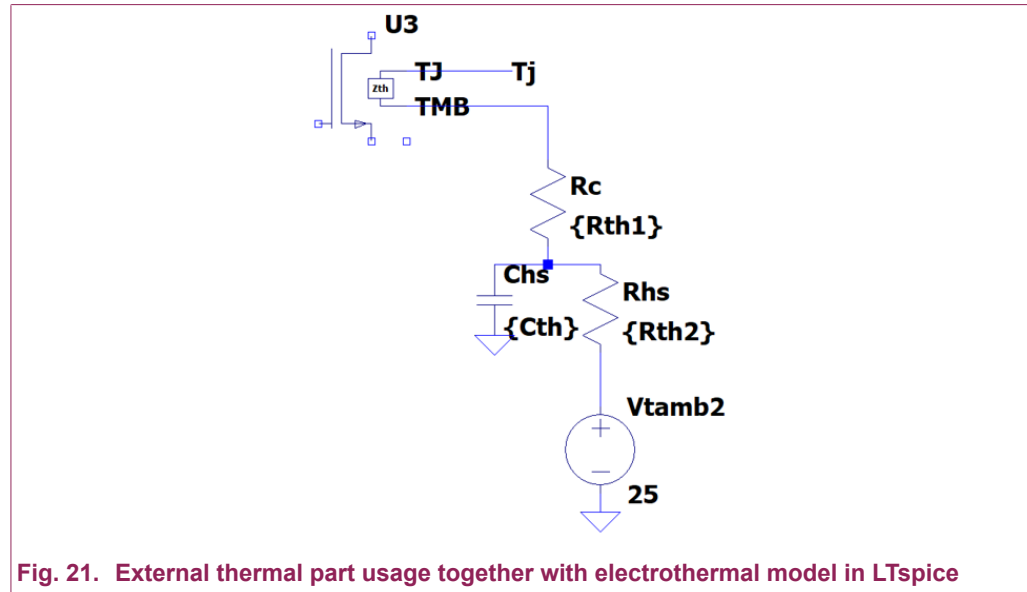

Fig. 21. External thermal part usage together with electrothermal model in LTspice
3. You can connect TMB node to an external thermal circuit that represents a simple thermal model of the heatsink, see Fig. 21.